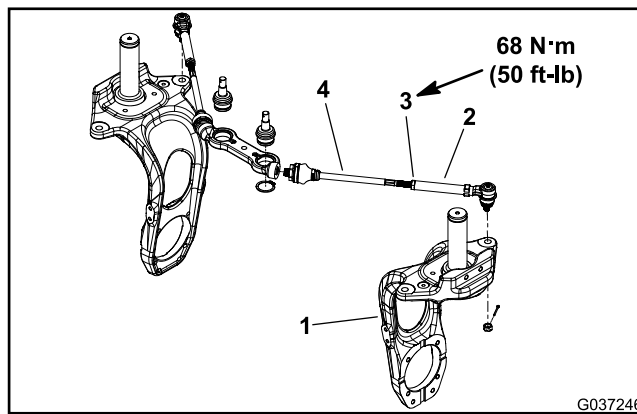

Figure 261
9. If the straight edge does not contact the tires at 4 points, adjustments to the tie rods are necessary to align the wheels (Figure 261).